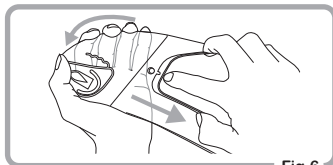

Fig.6
- ① Remove the shield from the helmet.
- ② Remove the Pinlock® Original Insert Lens from the eccentric pins with flexing the shield. (Fig.6)